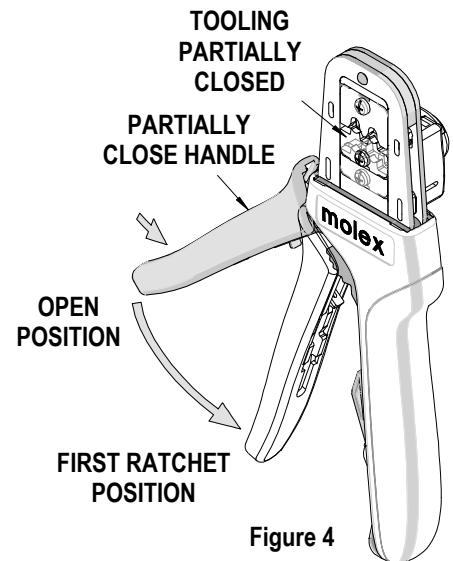

Figure 4
4. Close the tool handle until the first ratchet position engages. See Figure 4.